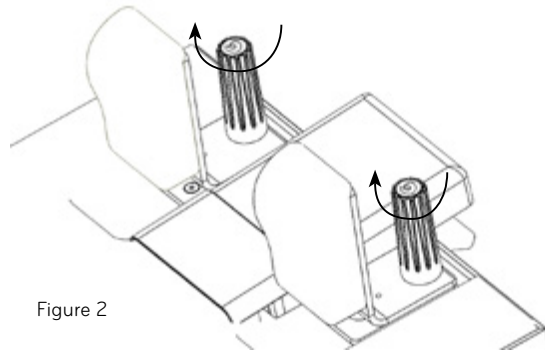

Figure 2
2. Secure the shoulder rest by turning the post clockwise until tight. See Figure 2. Overtightening these will make them difficult to remove. They should be snug but not too tight.